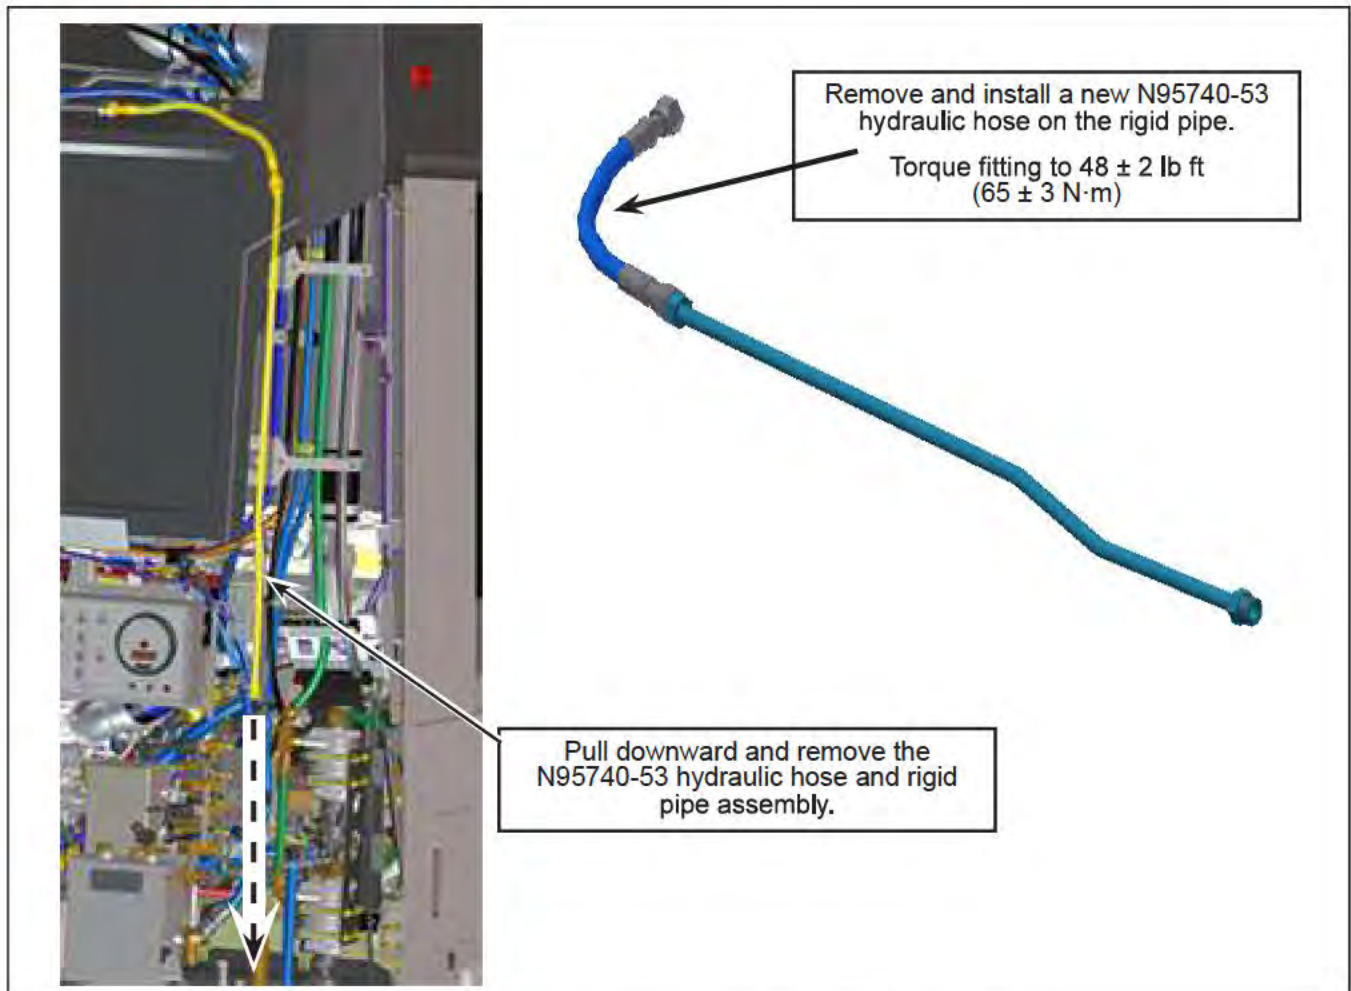

Figure 7 - Removal and Installation of N95740-53 Hydraulic Hose
- 2.11. Pull downward and remove the N95740-53 hydraulic hose and rigid pipe assembly. See Figure 7.
- 2.12. Remove the N95740-53 from the rigid pipe and discard. See Figure 7.
- 2.13. Install a new N95740-53 hydraulic hose on the rigid pipe. See Figure 7 for torque value.